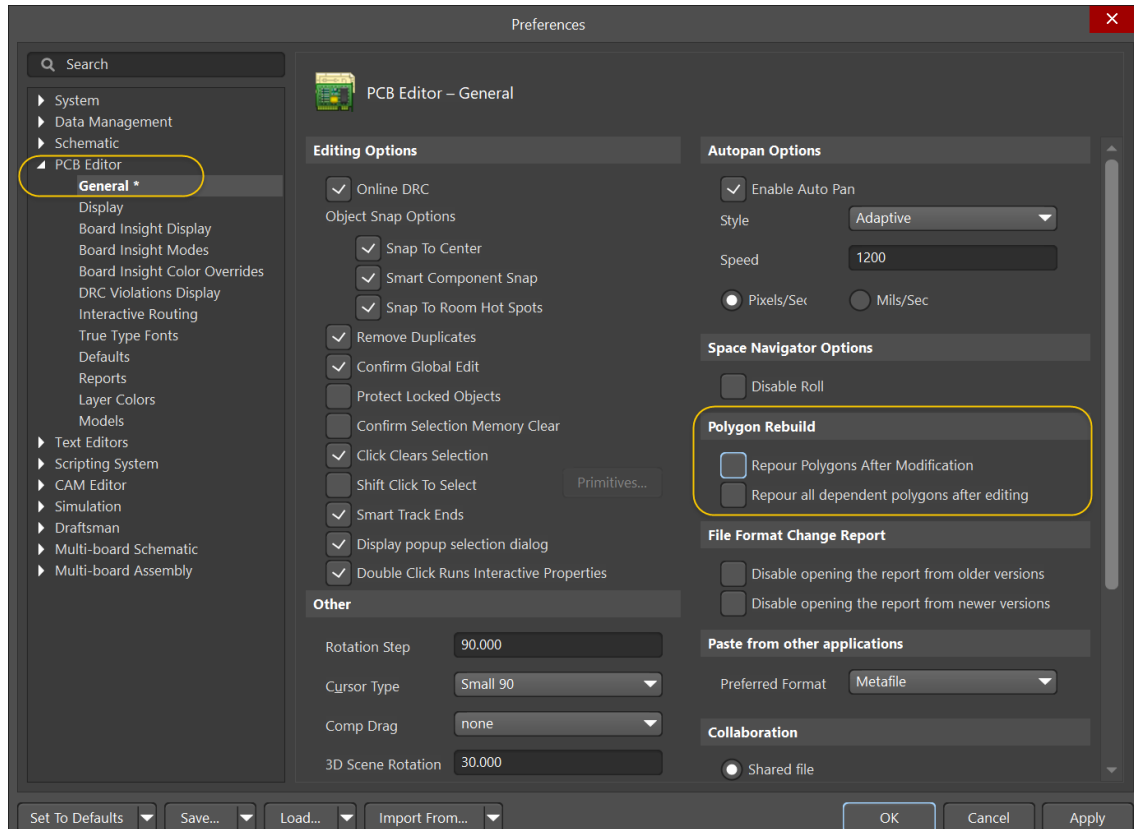

Figure 1. Disable Polygon Rebuild options
12. Disable both **Repour Polygon options under the Polygon Rebuild section** as shown in Figure 1. Click **OK** to accept these changes.